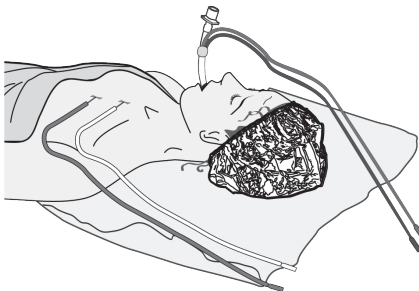

Figure 2
b. For Nerveäna® Plus and alternative EMG systems, insert white STIM return electrode to sternum and insert green EMG ground electrode just below that. (See figure 2)